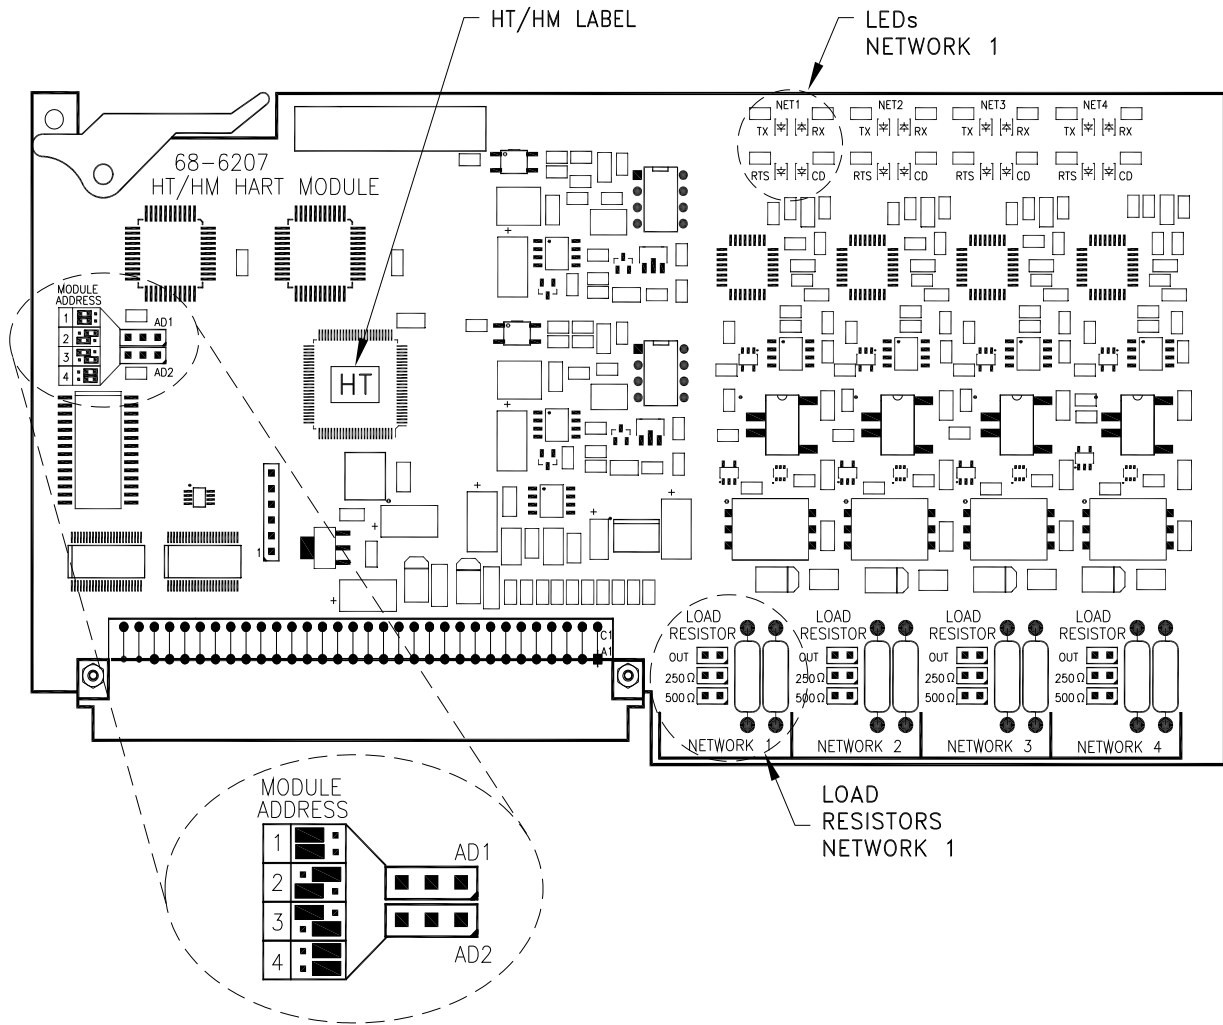

Figure 1. HT or HM Label Rev B
- Four (4) independent HART FSK networks
- Two (2) 4-20 mA Analog Outputs
- Maximum of four (4) modules per OMNI 3000/6000
- Point-to-point transmitter connections use the (HT) option
- Multi-drop and multivariable transmitter connections use the (HM) option
- Four (4) devices per network in Multi-drop mode.
The module is shipped as one (1) of two (2) optional types, a 68-6207-HT or a 68-6207-HM. The HT option is for use in point-to-point systems, while the HM option can be used in point-to-point, multi-drop, or multivariable mode systems. The type of the module is programmed at the factory and cannot be changed in the field. It is indicated by an "HT" or "HM" label as shown in Figures 1 and 2.
Each HART Network is provided with four (4) LEDs to help diagnose communication problems. They indicate the communication traffic on each network (Figures 1 and 2).
NOTES: The indicator LEDs for each HART network channel will indicate activity on that channel. The RED LEDs (RTS & TX) will illuminate when a message to a device is being transmitted to the network channel. Responses from HART field devices are indicated by the GREEN LEDs (CD & RX) activity. Reference the section titled “Diagnostics” and Figures 1 and 2.